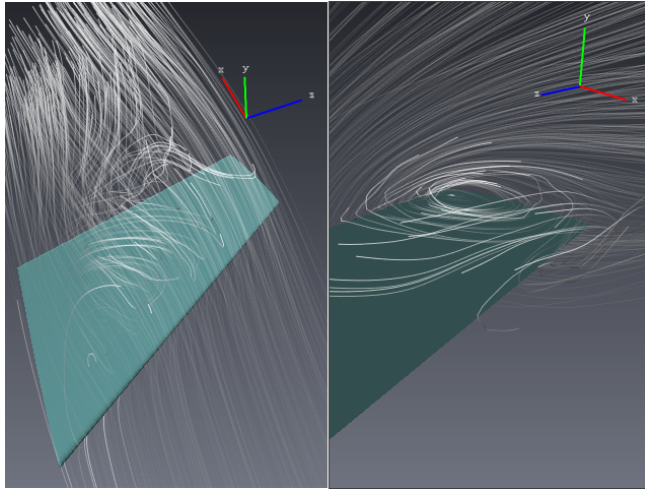

Figure 20.85: Illuminated Streamlines of the velocity vector field.
- Rotate and zoom in and out to get two different views, something like Figure 20.85.